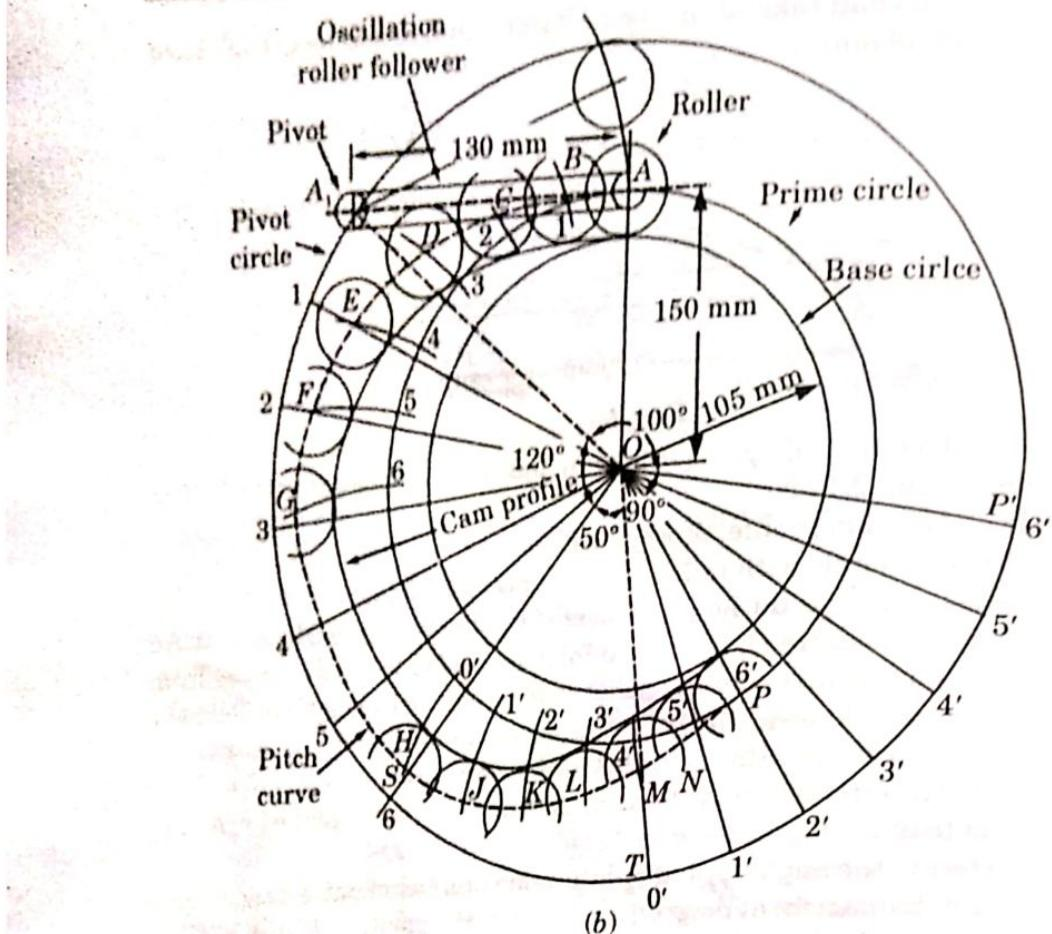

Fig. 2.12.2.
4. The displacement diagram drawn by following the usual procedure is shown in Fig. 2.12.2(a).
- i. Draw a circle with radius $(r_c + r_f)$ [Fig. 2.12.2(b)].